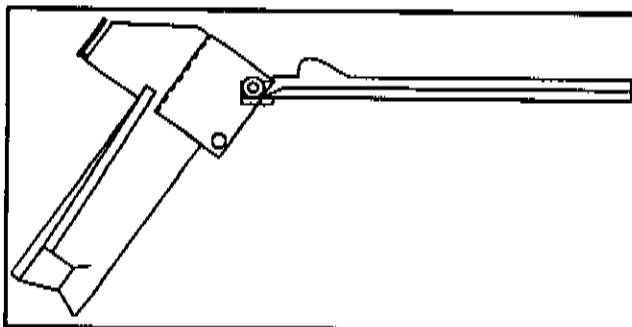

Fig. 5-3
2. Lift the front of the shelf and continue to pull forward, making sure that the retaining studs clear the gap in the shelf supports (See Figure 5-3). Continue pulling the shelf forward until it stops.